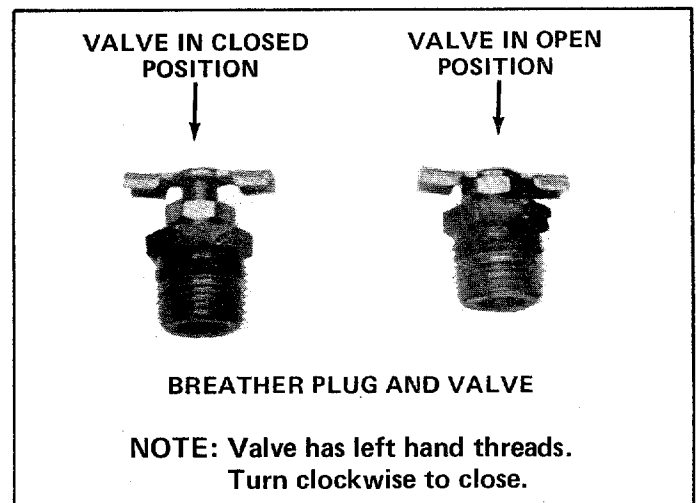

FIGURE 13.
2. Open the breather valve. Valve must be open when running log splitter. Valve must be closed when transporting log splitter. See figure 13.